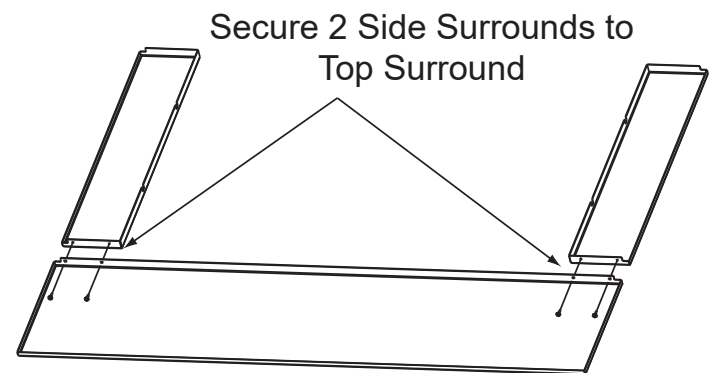

Figure 19.3
2. Using a Phillips head screw driver attach the side surrounds to the top surround using 2 #8 sheet metal screws provided with the kit (**Figure 19.3**).